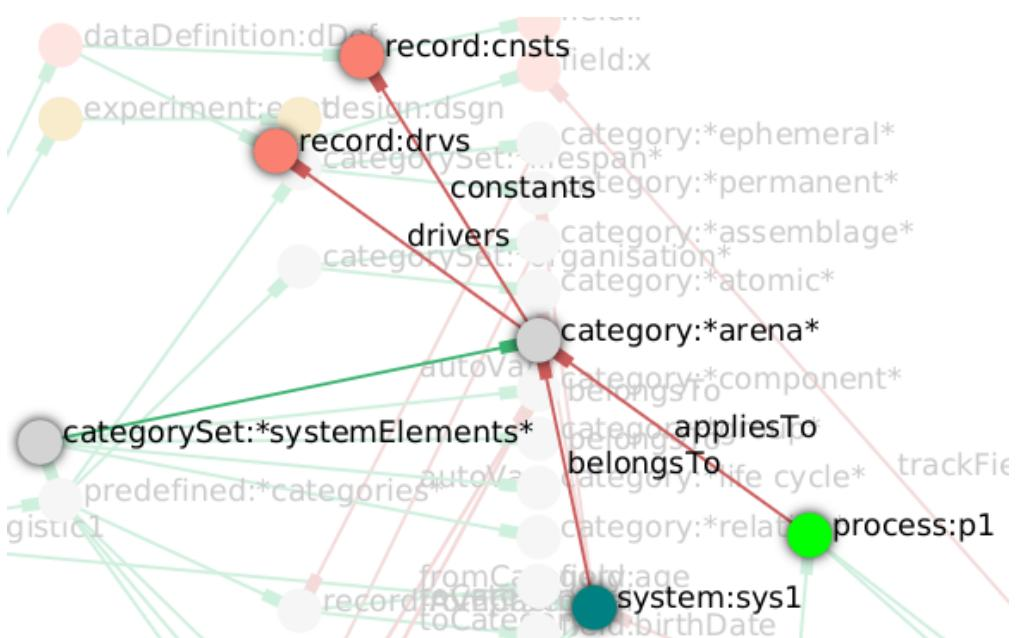

Figure 29. The specification of the constants and drivers for the arena, a category to which the only component (aka `system:sys1`) in this tutorial belongs.
8. Right-click again on `category:*arena*` and select New edge → `drivers` → `record:drvs` (Figure 29).